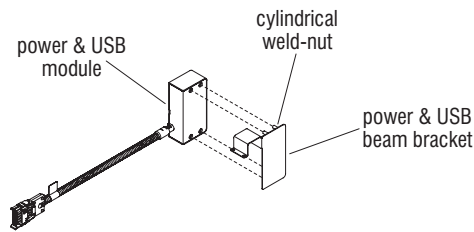

Figure 3
8. Position the power & USB module, with the connector end and the four mounting holes as illustrated. Next orient the power & USB beam bracket as illustrated, such that the cylindrical weld-nuts on the inside of the bracket face the four mounting holes in the side of the power & USB bracket. Press the beam bracket onto the side of the power & USB module, inserting the four weld-nuts into the four mounting holes in the side of the power & USB module, and "snap" the two together (Figure 3).